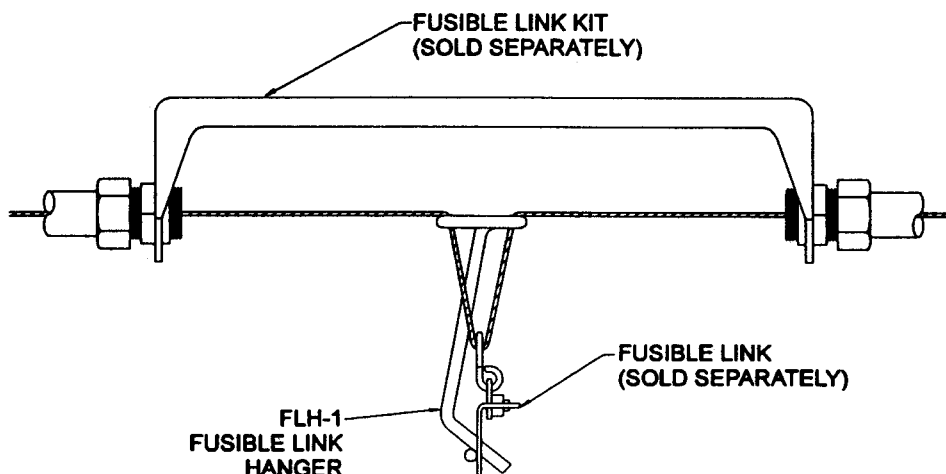

Figure 2-10. Model FLH-1 Fusible Link Hanger
- ▶ The Model FLH-1 fusible link hanger is an accessory designed to simplify the installation of fusible links in the fusible link line. It can be used with the Model FLK-1 fusible link kit (kits must be ordered separately). The Fusible Link Hanger makes it possible to install fusible links without cutting and crimping loops in the fusible link line for each link. They are available in packages of 25 (FLH-25) only. See **Figure 2-10**.